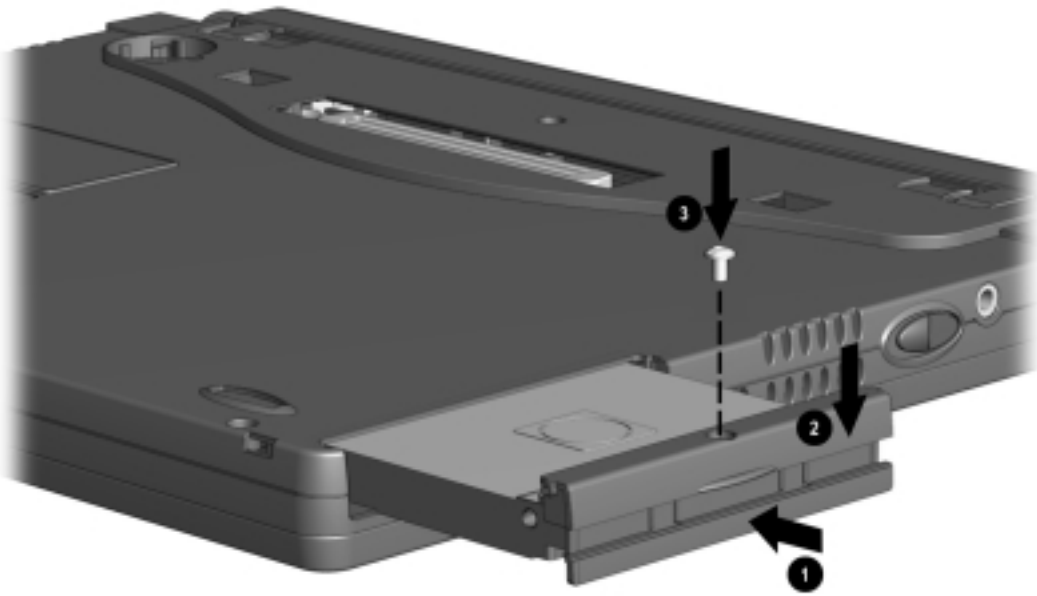

Figure 5-8. Inserting a Hard Drive
4. Slide the hard drive into the bay until the connector is seated **1** (Figure 5-8).